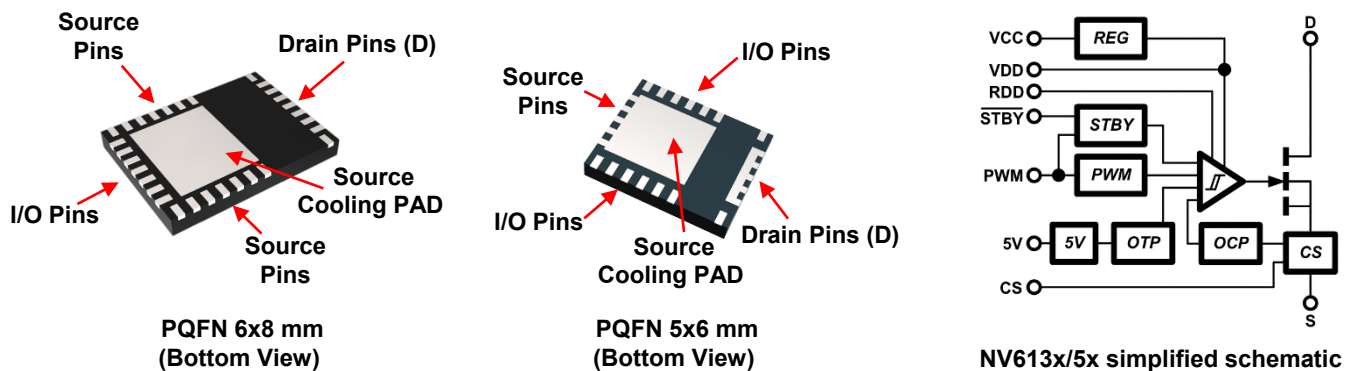

Fig 1. PQFN 6x8 and 5x6 packages and simplified schematic
The industry standard NV611x and NV612x GaNFast ICs have been designed into a variety of high-density power supplies due to integrated gate drive, wide range V_{CC} and PWM inputs, internal ESD protection, and large thermal cooling pad. These key features combined with Navitas 700V GaN IC technology enables high-frequency operation with ease-of-use, design flexibility and compatibility with all popular topologies and controllers. To further enhance the GaNFast product family, GaNSense technology has been implemented to provide state-of-the-art loss-less current sensing of the GaN IC, and to provide an additional layer of OCP and OTP protection. Autonomous standby mode is also included to reduce system no load and light-load power losses. The IC pinout of the PQFN 6x8 and 5x6 package versions includes (see Fig. 1) Drain pins (D), Source pins (S), I/O pins, and a large Source cooling pad (PAD). The I/O pins include IC supply pins, PWM input, dV/dt turn-on control, and current sensing output. Most of the switching currents of the external power conversion circuit flow from the Drain pins, through the GaN power FET, and to the Source pins. Heat generated from the GaN IC **must be** taken out through the Source cooling pad (PAD) and to the PCB. Large PCB copper areas and thermal vias are then used to transfer the heat to the opposite side of the PCB and/or to inner layers that have large copper planes where it can then be spread and cooled. The cooling pad is conveniently connected to PGND to gain additional PCB thermal copper area.